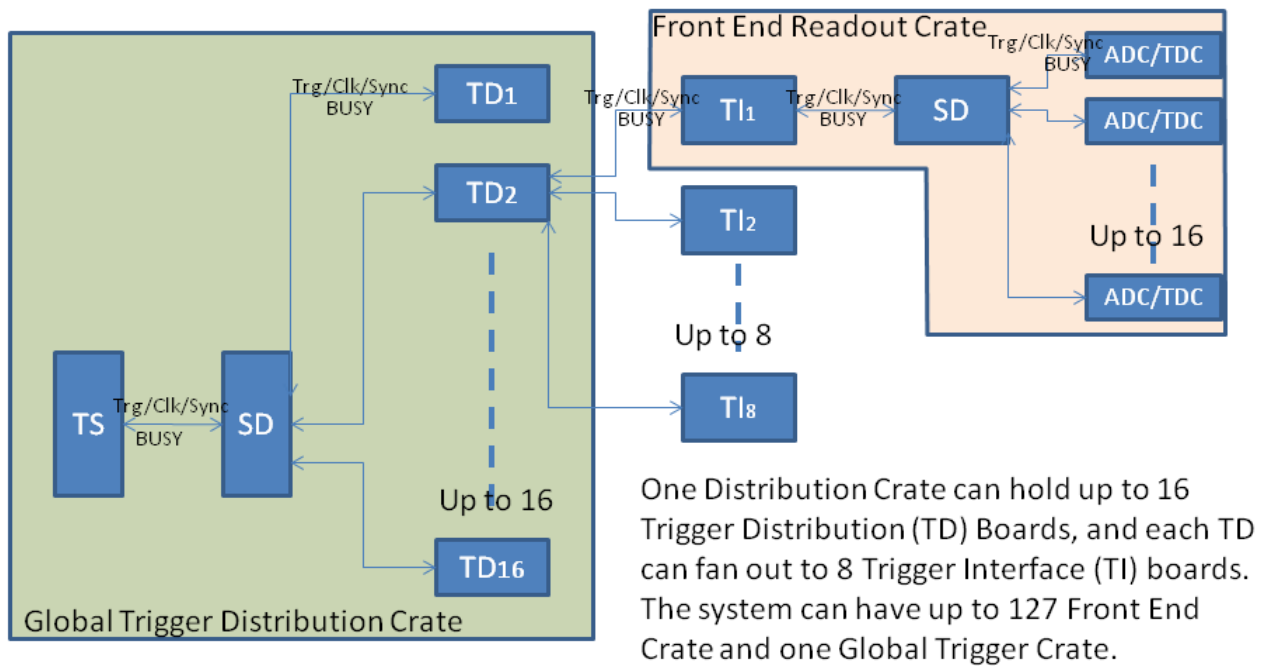

Figure 1 Trigger distribution scheme
The Trigger Supervisor (TS) version 4 module is being designed for the Jefferson Lab 12GeV upgrade, mainly for Hall-D [(Collaboration G. , 2009)] and Hall-B [(Collaboration C. , 2009)], with other experimental Halls [(experiments, 1990)] compatibility. This module is the interface between the trigger system and data acquisition system of the experiment. The TS acts as the central control point for data acquisition. It provides a synchronous clock source to the experiment, trigger signal for the data readout, and a sync signal to align the frontend electronics. Together with the Trigger Interface (TI) boards, Trigger Distribution (TD) boards and Signal Distribution (SD) boards, the clock, trigger and sync signals are distributed to the frontend electronics, and the BUSY signals from the frontend electronics are monitored. Figure 1 shows the placement of the TS, TI, TD and SD in the global trigger distribution scheme in experiment setup.